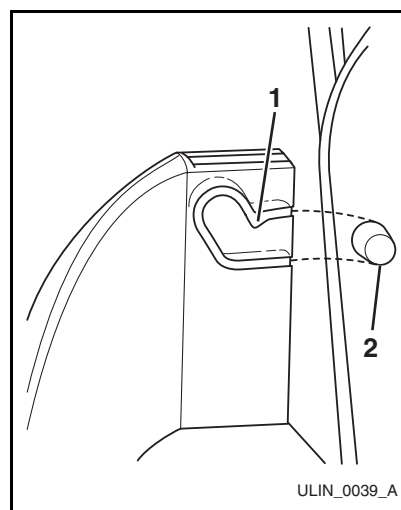

Figure 28
2. Carefully pull shelf off bosses (**Figure 28, 2**).
1. Holding shelf in center, align notches (**Figure 28, 1**) in shelf with bosses (**Figure 28, 2**) in door.